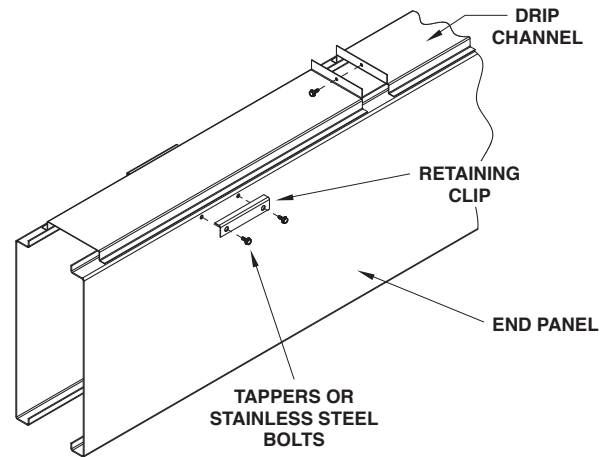

Figure 7 – Drip Channel Installation
8. Place the drip channel over the adjoining pan section flanges. Secure by installing 5/16" (8 mm) self-tapping screws through the retaining clips into the end panels. For stainless steel construction, secure by installing 1/4" (6 mm) stainless steel bolts through the retaining clips into brass rivnuts secured in the end panel. (See Figure 7.)